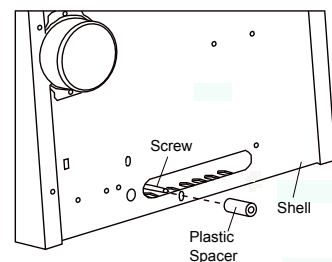
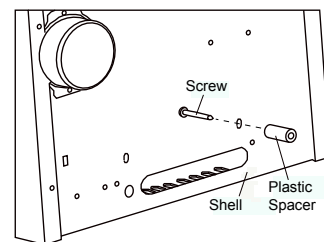

Figure 11A
Figure 11B
7. Using the longest screw and plastic spacer provided, drive screw from the inside of the heater body through hole shown in figures 11A and 11B and into the hole at the end of the plastic spacer. (For 1096513 see Figure 11A), (For 3096513 see Figure 11B)